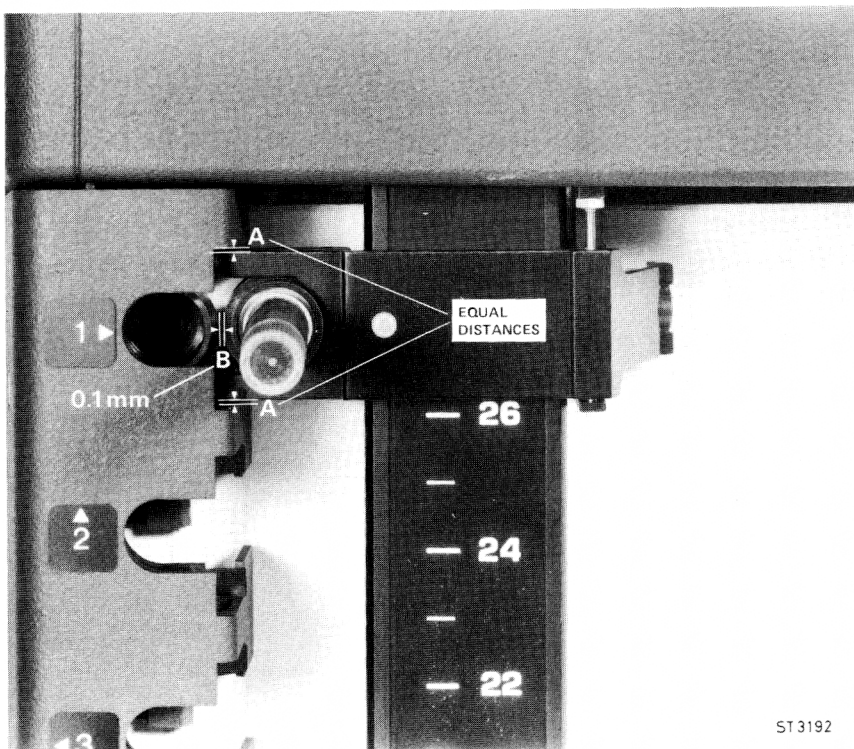

Fig. 4.2
- Adjust the distances 'A' as given in Fig. 4.2 so that they are equal, using potmeter Y0, accessible via the bottom of the plotter.